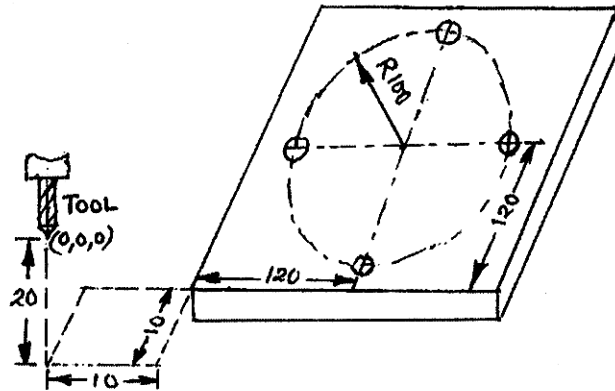

FIG. 5
5. Write a manual part program to drill four holes (depth = 5 mm) as shown in fig.5 using a CNC machine. 10